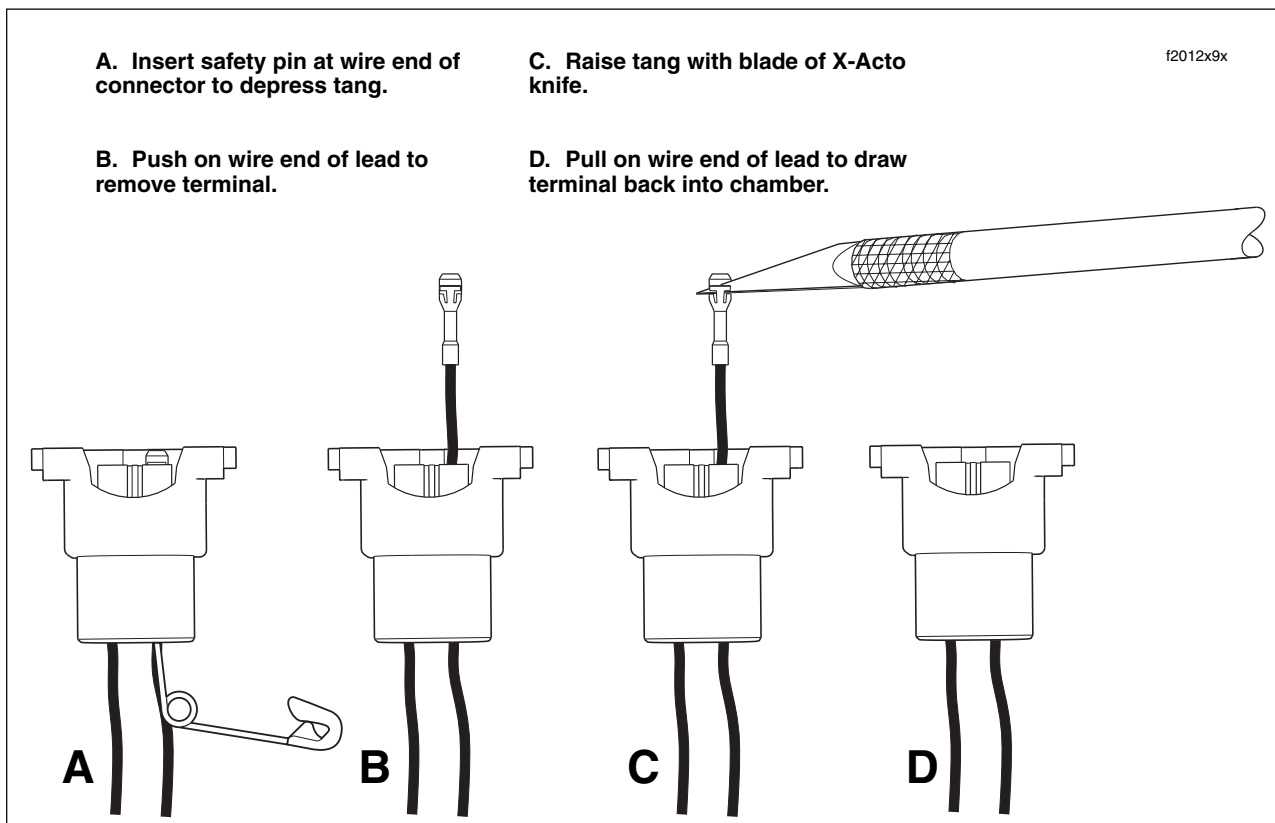

Figure B-20. Extract/Install Socket Terminal at Mating End of Connector
4. Push safety pin completely into chamber while watching terminal on mating end of connector. When terminal is observed moving forward slightly, then tang is depressed. See A in Figure B-20. Remove safety pin.
2. Gently pull on the lead at the wire end of the connector to draw the terminal back into the chamber. Be sure that the tang faces opposite the wireform as it enters the chamber. A “click” is heard when the terminal is properly seated. See D in Figure B-20.
5. Push on wire end of the lead to extract the terminal from the mating end of the connector. See B in Figure B-20.
1. Using a thin flat blade, like that on an X-Acto knife, carefully bend the tang outward away from the terminal body. See C in Figure B-20.